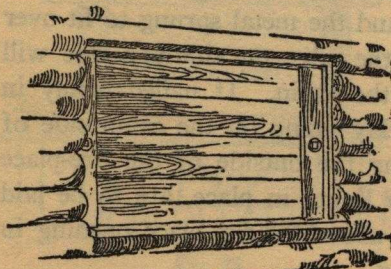

FIG. 28.
**SHUTTERS.**—Each window frame should have a loose shutter (Fig. 28), to close the building up tight when it is left at the end of camping season. These shutters should be made the exact size of the log or frame opening. Make them of matched boards with cross-pieces, nailed with wrought nails. Take the corners off the battens or cross-pieces and place them so that